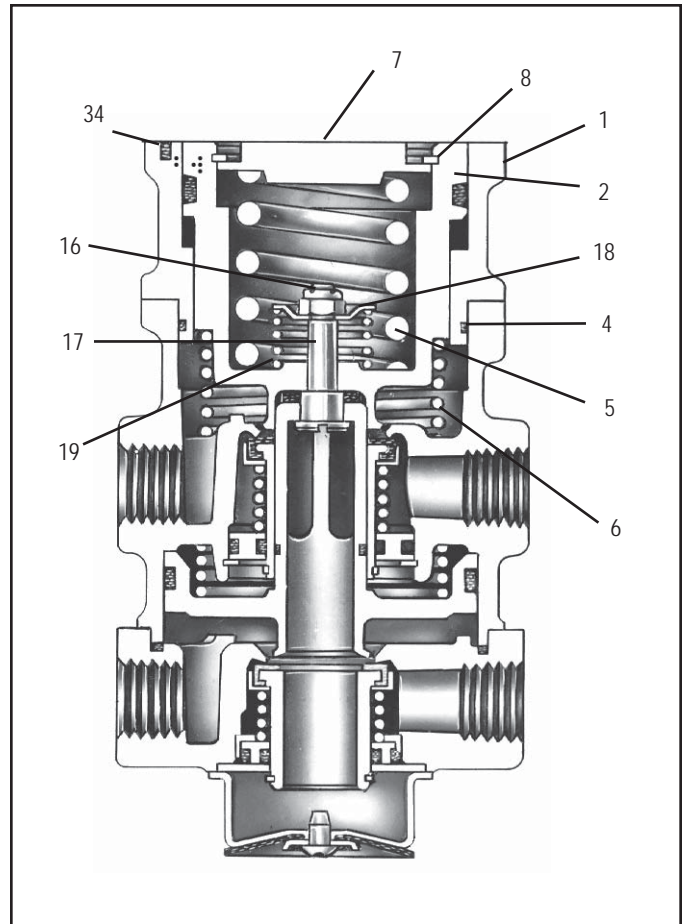

FIGURE 4 - BENDIX® E-10™ DUAL BRAKE VALVE SECTIONAL DIAGRAM
BENDIX® E-10™ BRAKE VALVE ONLY (Figure 4):
8. A. While depressing the spring seat (7), remove retaining ring (8).
B. Remove the spring seat and coil spring (5).
9. Using a 3/8" wrench, hold the lock nut (16) on the threaded end of the stem (17) in the primary piston (2). Insert a screwdriver in the exhaust passage through the center of the valve and engage the slotted head of the stem.
10. Remove lock nut (16), spring seat (18), stem spring (19), primary piston (2), and primary piston return spring (6). Remove o-ring (34).
11. Remove adapter (1). Remove o-ring (4) from adapter. Caution: Before proceeding with the disassembly, refer to Figure 4 and note that the lock nut and stem are used to contain the primary piston return spring, stem spring and the relay piston spring. The combined force of these springs is approximately 50 pounds and care must be taken when removing the lock nut as the spring forces will be released. It is recommended that the primary piston and relay piston be manually or mechanically contained while the nut and stem are being removed.